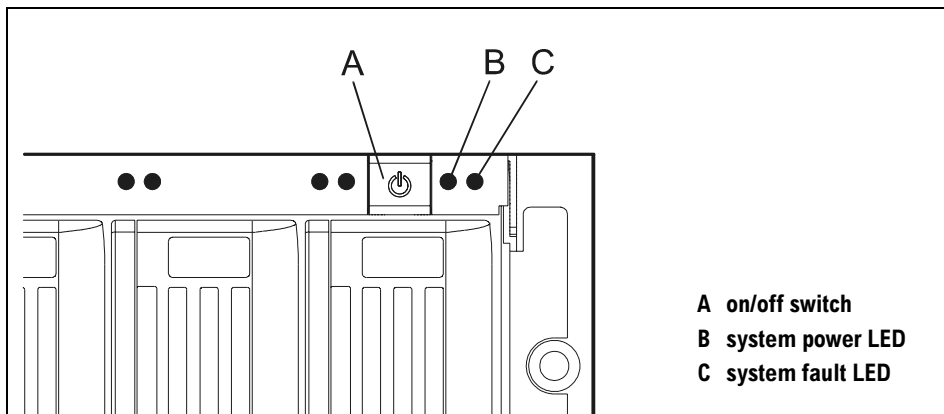

Figure 32 On/Off Switch and System LEDs
1. Press the power switch (A in Figure 32) to turn on the disk system.
2. Watch the system LEDs for confirmation that the disk system is operational. The system power LED (B) should be green, and the fault LED (C) should be off.